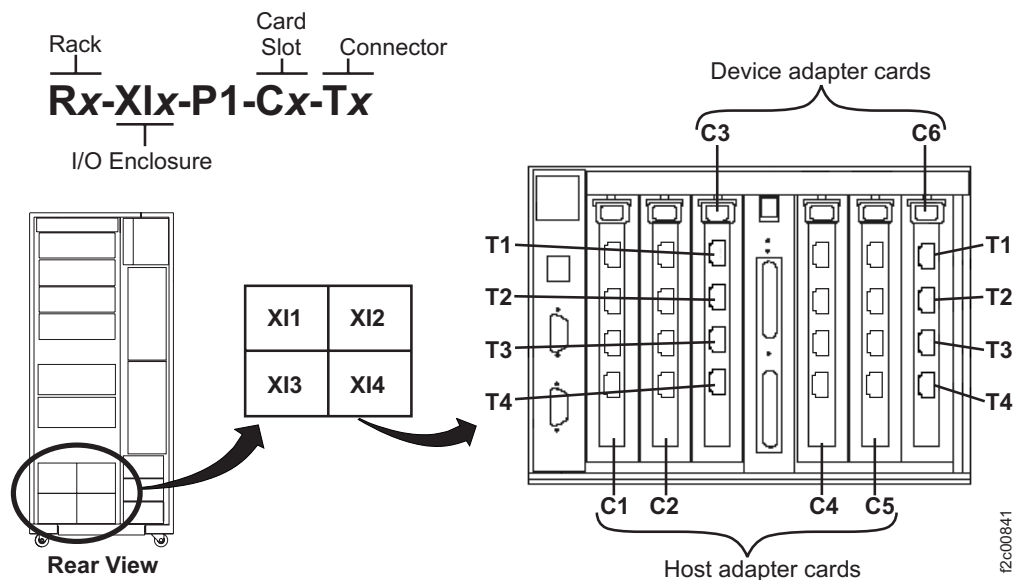

Figure 68. Location codes for device adapter and host adapter cards
10. Identify the I/O enclosure that contains the host card and port to which the host cables from the host will be attached. See Figure 68.
Note: The syntax of the location code shown on the ICAT configuration tool might differ slightly from that shown in Figure 68. For the device adapter card connectors, the syntax might be Rx-Ix-Cx-Tx (the backplane identifier of P1 is missing and Ix is equivalent to XIx).